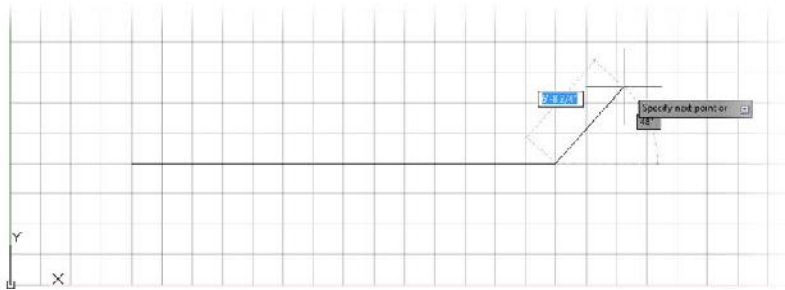

FIGURE 3.13: The first line of the cabin wall is drawn.
8. At this point, click the left mouse button to draw the first line of the cabin wall (see Figure 3.13).